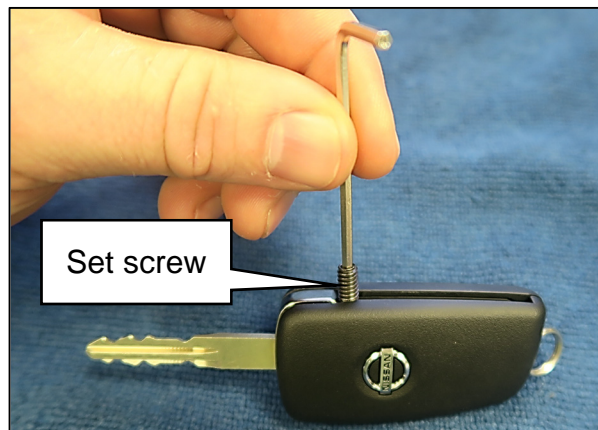

Figure 3
3. If installed, remove the set screw using a 3/32" hex wrench, as shown in Figure 3.